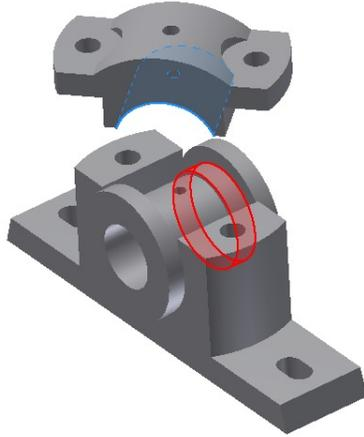
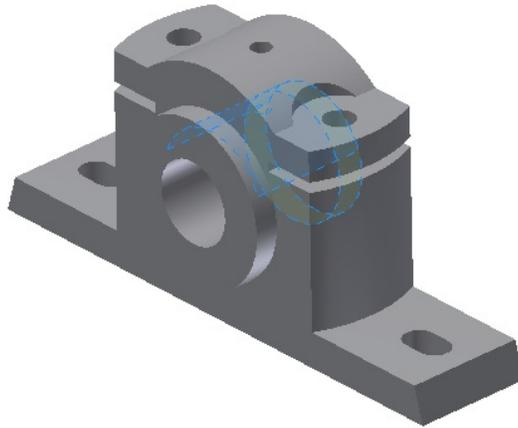

Figure 9-86 Faces selected for applying the **Mate** constraint
Figure 9-87 The Cap after applying the **Mate** constraint
4. Similarly, select the top cylindrical face of the Brasses as the second selection, as shown in Figure 9-86. Next, choose **OK** from the **Place Constraint** dialog box to apply the constraint and close the dialog box. The assembly after the Cap is assembled is shown in Figure 9-87.